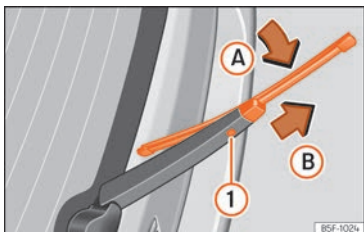

Fig. 85 Changing the rear wiper blade
- Turn the blade slightly »» Fig. 85 (arrow A).
- Hold down the release button ❶ while gently pulling the blade in the direction of arrow B.
- Insert a new blade of the **same length and type** in the rear wiper arm in the opposite direction to the arrow B and hook into place button ❶.